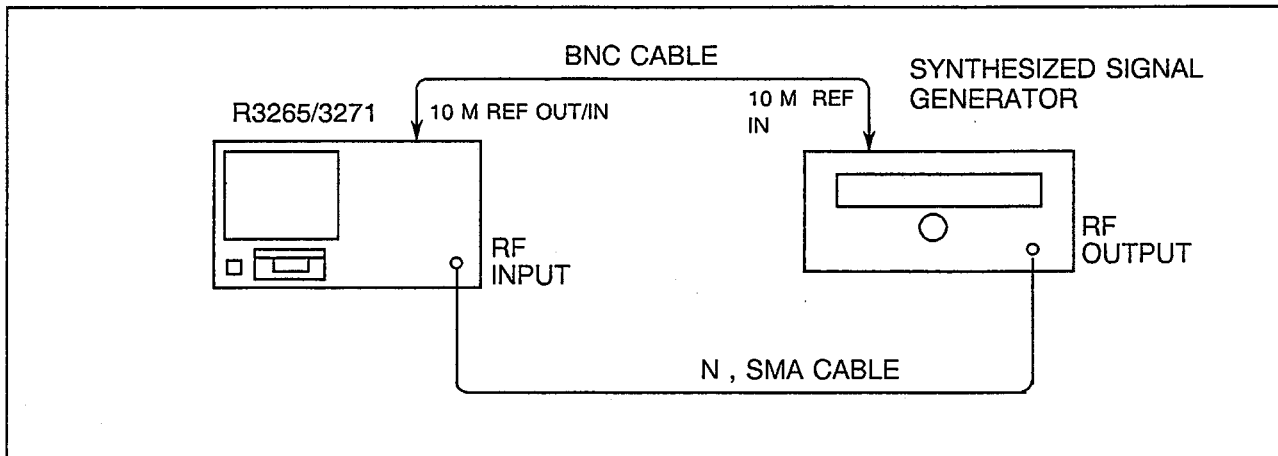

Figure 4-5 Noise Sidebands Test Setup
- (1) Connect the equipment as shown in Figure 4-5.
- (2) Set the Signal Generator controls as follows: